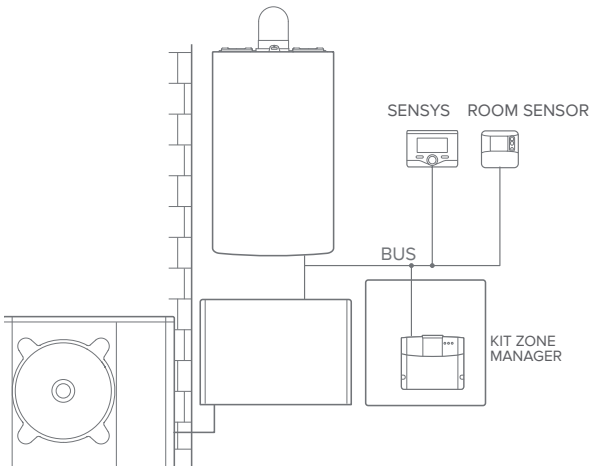

fig.9
Activation of RD and RC in a hybrid system with up to 2 hydraulic zones controlled by BridgeNet BUS devices (Fig. 9)
3. Attach the cover, pushing gently (Figure 9).